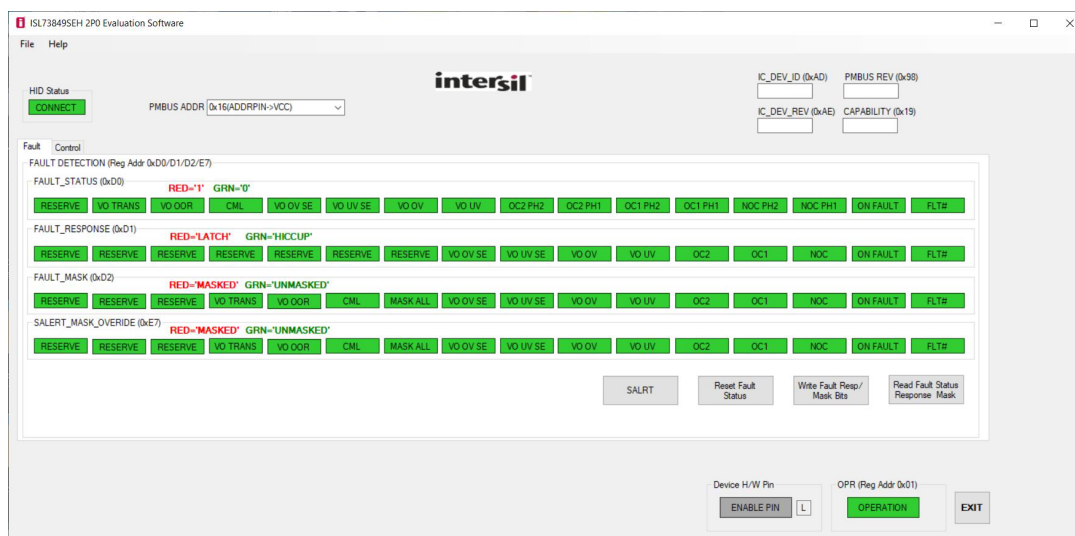

Figure 2. ISL73849 Evaluation Software Main Page
6. Click **Finish** to launch the application. The GUI opens (Figure 2).